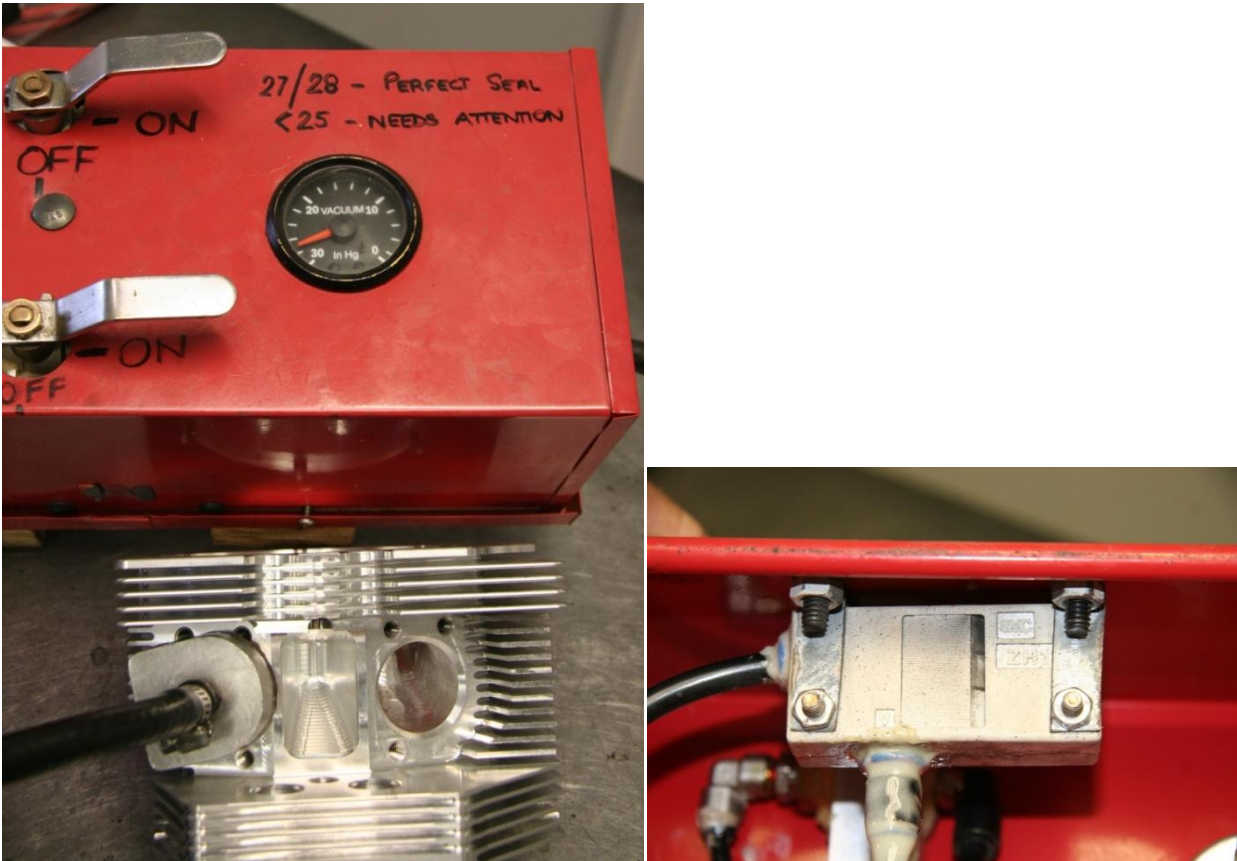

Figure 92 – Vacuum Test Rig
- After cutting the seal of the valves must be checked using a vacuum tester. This can be done without fitting the valve springs as the vacuum which is applied in this test holds the valve against the seat. Figure 92 shows a vacuum test rig. This system connects to the workshop's compressed air supply and uses a venturi effect within the silver box (right) to generate a partial vacuum. A fitting must be made to connect the vacuum tube to the cylinder head – we use a layer of insertion rubber to seal between the metal fitting and the cylinder head. Once operating the vacuum is assessed via a gauge. If the valve achieves 25inhg or less then the valve must be cut against the seat to improve the seal. Again, remember that the seats and valves must be cut as little as possible.